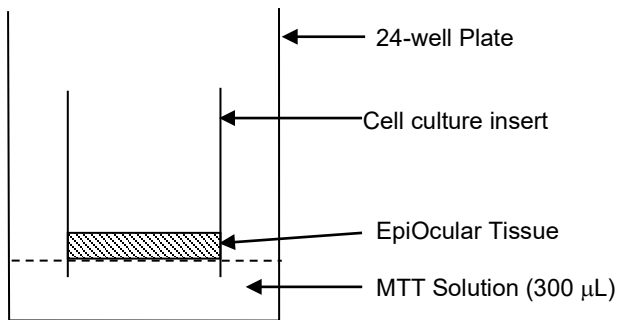

Figure 3: Incubation in the MTT solution (37° C, 95% rH, 3 hours)
l) **MTT loading:** Return the EpiOcular tissues in the 24-well plate to the incubator for 3 hours. See Figure 3. Note: Deviations from the 3-hour time for MTT incubation will result in different MTT readings and thus the 3-hour MTT incubation time should be adhered to very strictly (3.0 hours \pm 5 minutes or less is recommended).